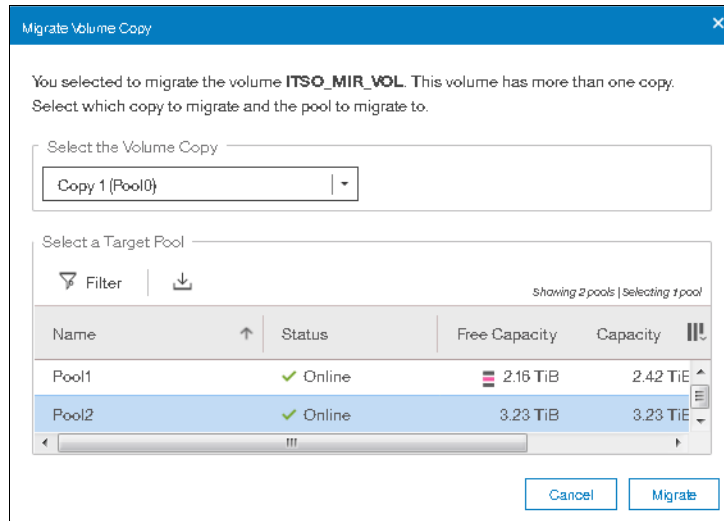

Figure 6-54 Selecting the new pool for volume migration
4. Select the new target storage pool as shown in Figure 6-54 on page 312.